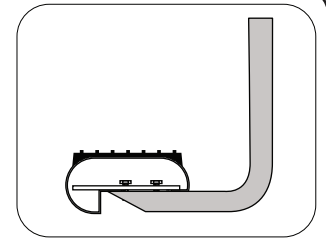

FIG 2a
- 1) Place clamp brackets on main bracket and turn 90 degrees to the main brackets. Place 5/16" hex bolt through top of bracket clamp in oblong hole to center hole in main bracket, placing 5/16" flange nut on bottom side (Fig 2a).